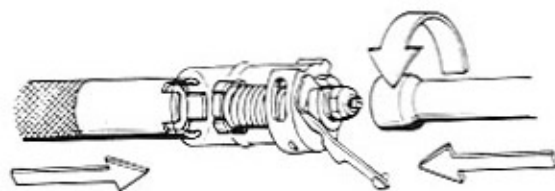

Figure 5
7. To disassemble the insert assembly, fit the disc and retainer wrench (U.S.D. PN 1100-05) over the disc end of the retainer (item 2). Insert the 1/4-inch nut driver portion of the lever height adjustment tool (U.S.D. PN 1016-84) over the locknut (item 7). While holding the locknut with the nut driver, turn the nut driver counterclockwise and remove the locknut (item 7). See Figure 5. Discard the used locknut.